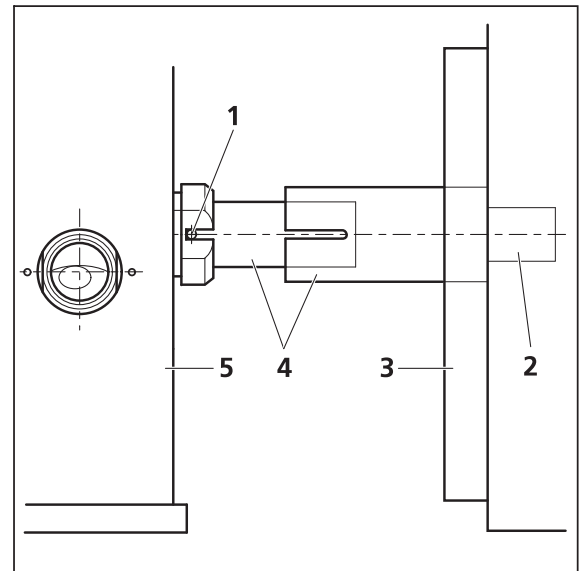

Fig. 1-24 Tube connection from the periscope
- First pull out the tube from the periscope cover (Fig. 1-24/5) by sliding the inner tube into the outer tube (Fig. 1-24/4).
- Turn the tube assembly counter clockwise to unscrew the tube (Fig. 1-24/4) from the small black tube (Fig. 1-24/2) which is fixed to the scan head (Fig. 1-24/3).
- For rearranging the beam housing, first screw the tube onto the small black tube (Fig. 1-24/2) at the back of the scan head (Fig. 1-24/3). It should not be fastened completely to allow the inner tube to fit the side pins into the recess of the ring on the periscope (Fig. 1-24/5).